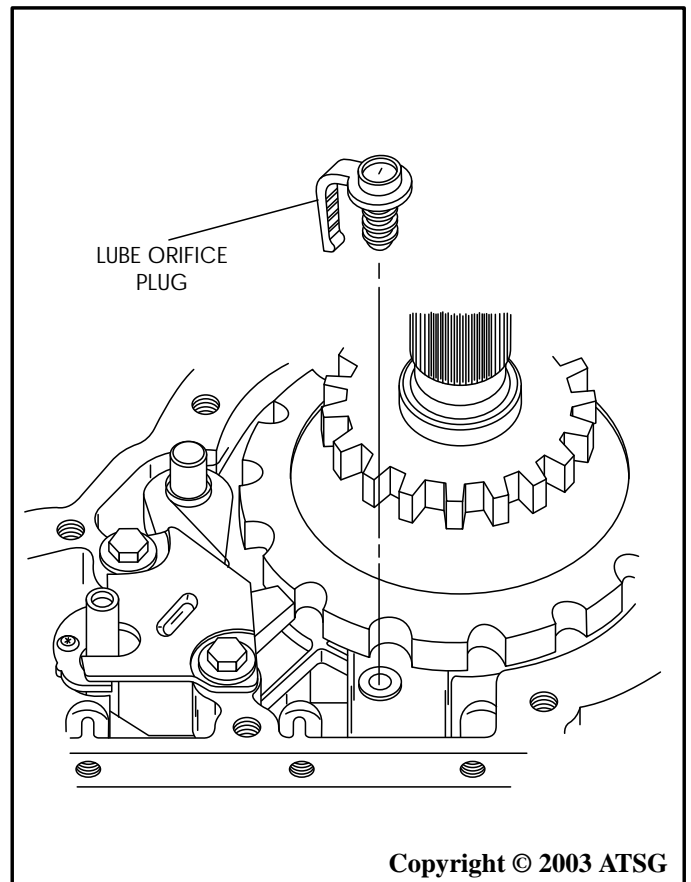

Figure 78
38. Remove and discard the lube orifice plug from rear of case, as shown in Figure 78.